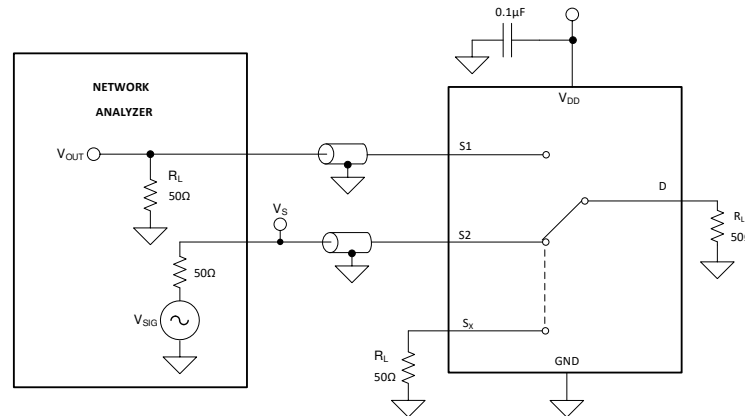

Figure 6-9. Crosstalk Measurement Setup
Crosstalk is defined as the ratio of the signal at the drain pin (D) of a different channel, when a signal is applied at the source pin (Sx) of an on-channel. Figure 6-9 shows the setup used to measure, and the equation used to calculate crosstalk.